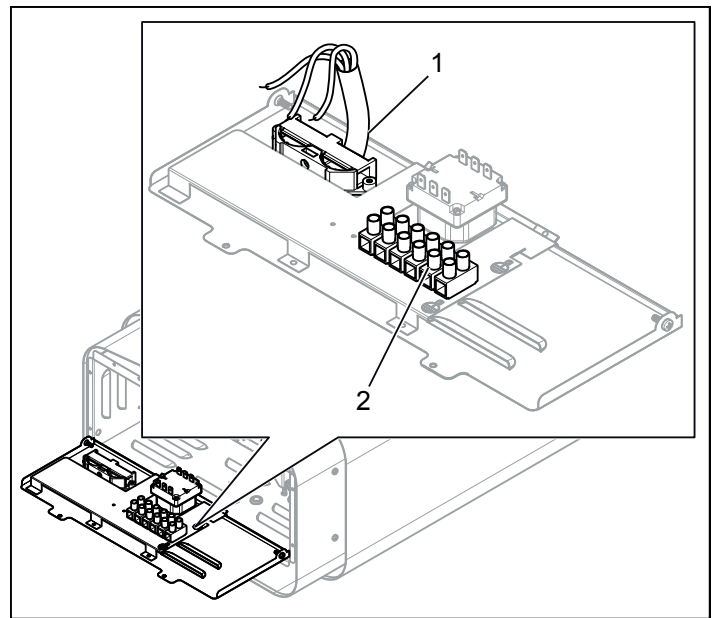

Figure 10: Electrical wiring
3. Connect the electrical cable (see Figure 10) according to the wiring diagram (see Figure 18-23).